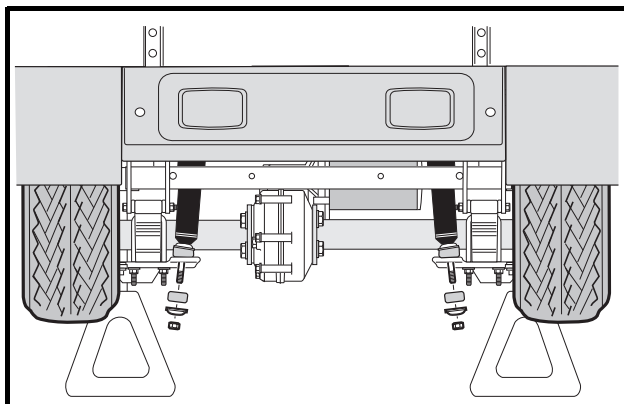
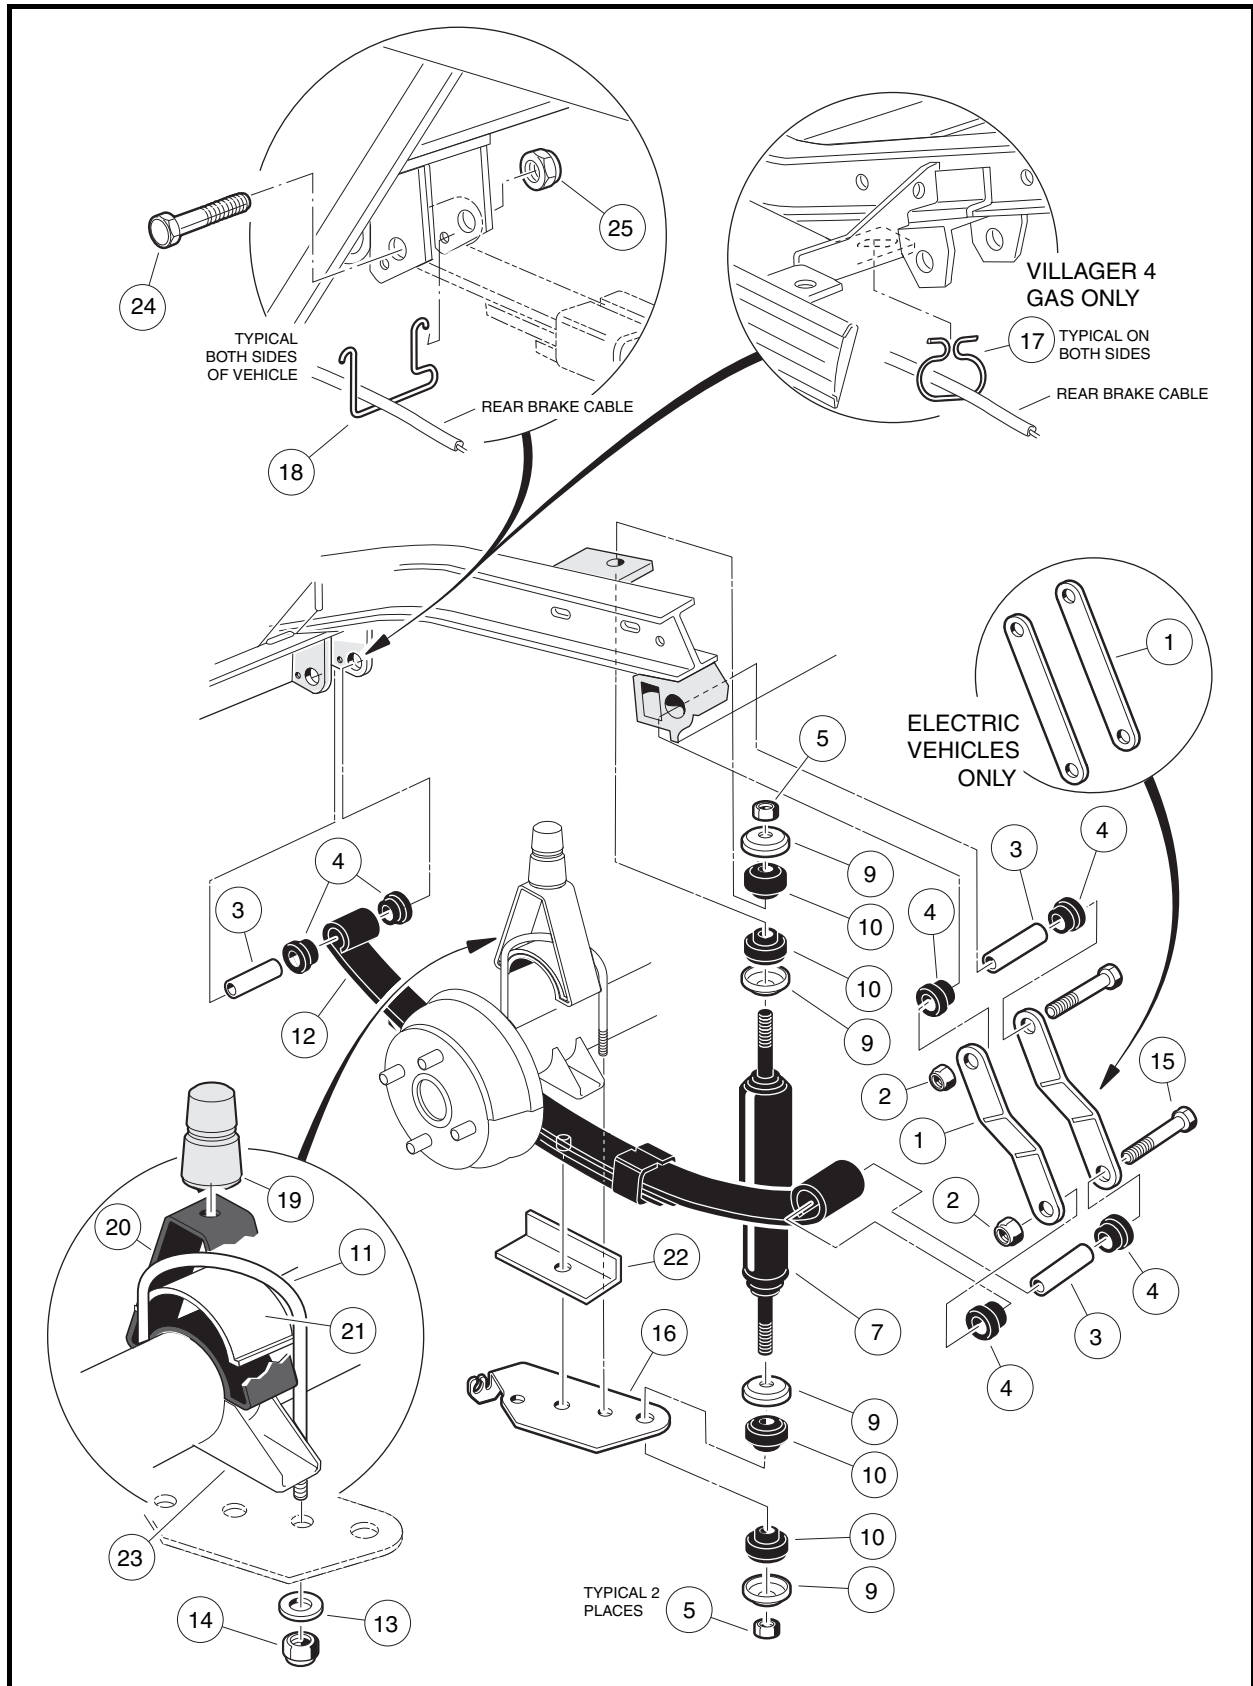
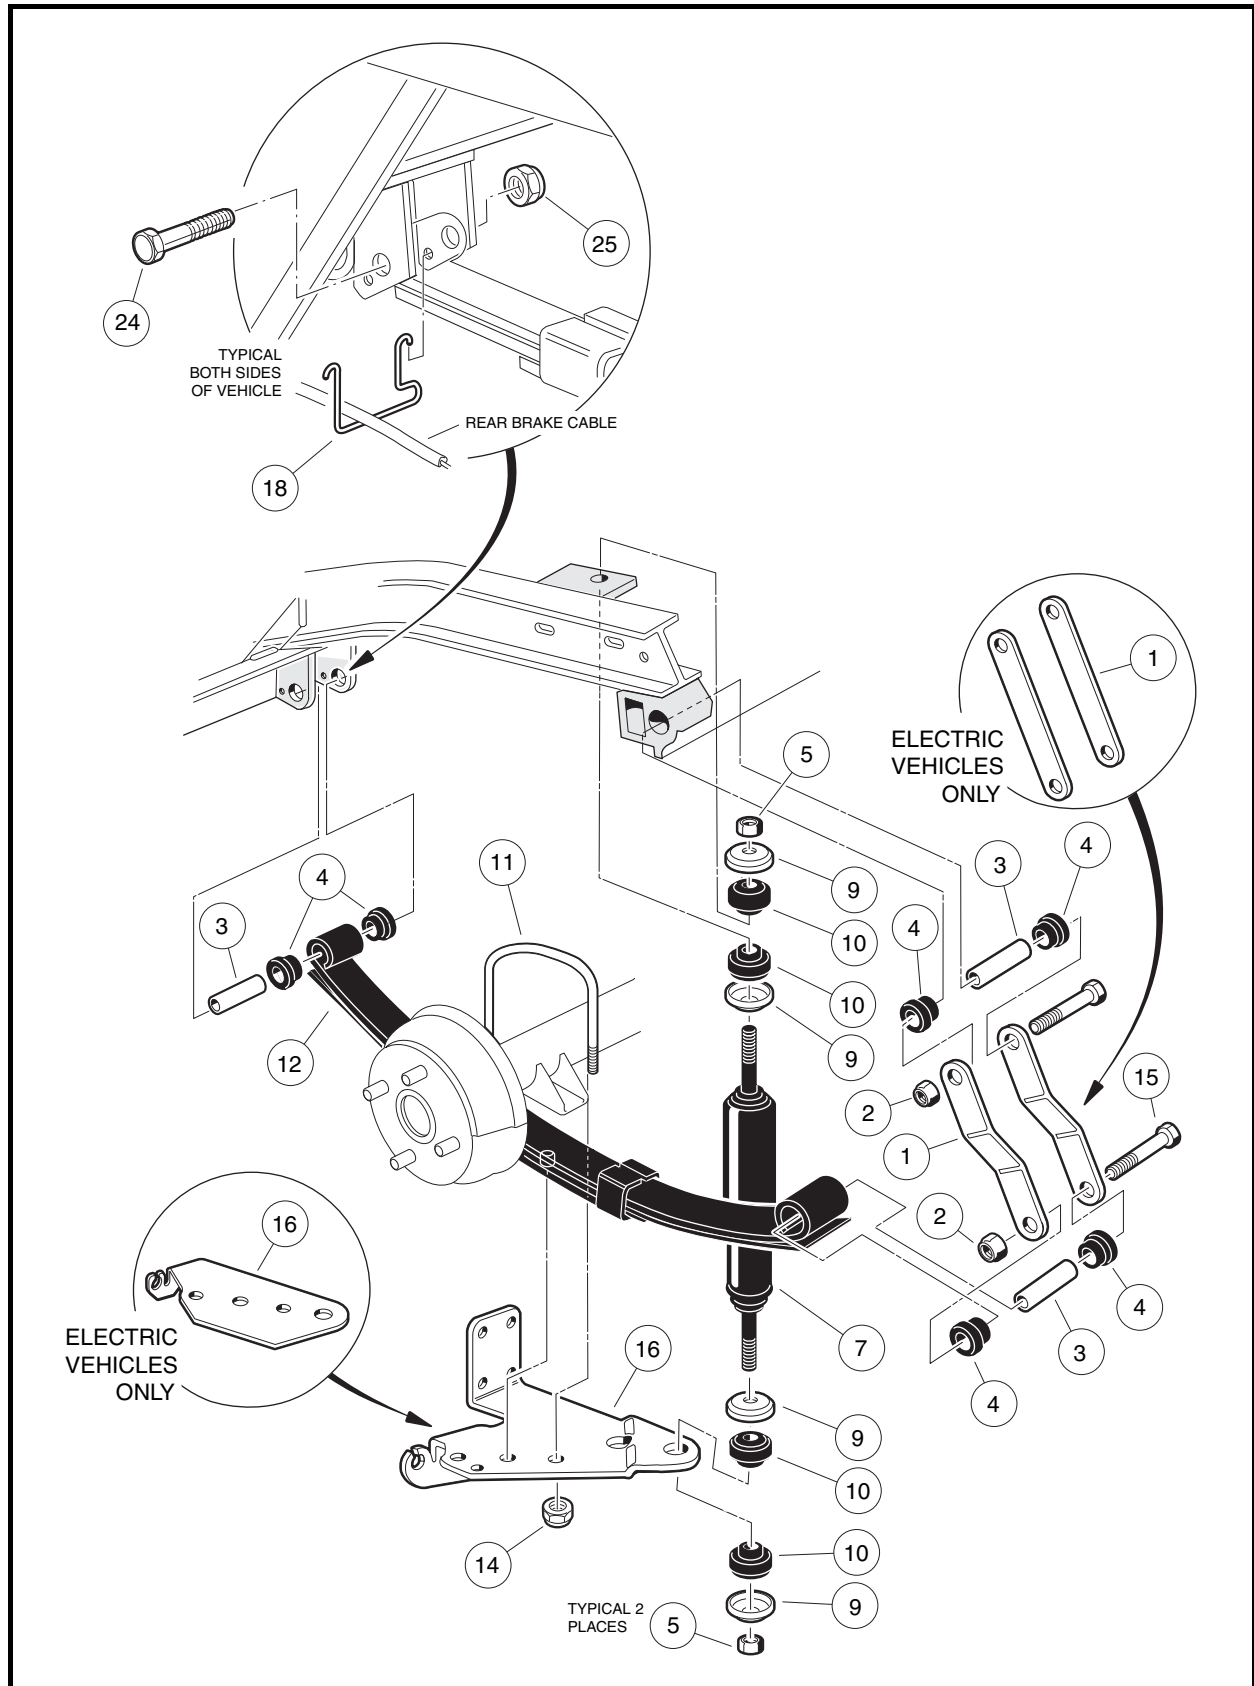

Figure 9-1 Remove Shock Absorbers
Figure 9-3 Rear Suspension – Villager 4 Vehicles
Figure 9-4 Rear Suspension – All Transportation Vehicles Except Villager 4
1. Check shock absorbers (7) for damage and fluid leakage around the lower housing of the shock absorber body. Replace damaged or leaking shock absorbers (**Figure 9-3, Page 9-4 or Figure 9-4, Page 9-5**).
2. To remove a shock absorber (7), remove the nut (5), cup washer (9), and rubber bushing (10) from the upper shock absorber stem.
3. Remove lower mounting hardware (5, 9 and 10) on shock absorber lower mount (**Figure 9-3, Page 9-4 or Figure 9-4, Page 9-5**). See also **Figure 9-1, Page 9-1**.
2. On the upper shock absorber mount, tighten nut (5) until rubber bushing (10) expands to size of cup washer (9) (**Figure 9-3, Page 9-4 or Figure 9-4, Page 9-5**).
3. On the lower shock absorber mount, install mounting hardware. Tighten the nut (5) until the rubber bushing (10) expands to the same diameter as the cup washer.
NOTE: Villager 4 vehicles are equipped with jounce bumpers (**Figure 9-3, Page 9-4**).
5. Remove lower nut (5), cup washer (9), and rubber bushing (10) from shock absorber (7) (**Figure 9-3, Page 9-4 or Figure 9-4, Page 9-5**).
- 6.1. Remove the lock nuts (14) and flat washers (13) (if present) attaching the U-bolt (11) to the shock mount bracket (16). Remove jounce bumper mount (20) and spacer (21) (**Figure 9-3, Page 9-4**).
- 6.2. Allow shock mount bracket (16) to rotate downward and remove spring retainer (22). Do not disconnect brake cable from bracket (**Figure 9-3, Page 9-4**).
- 7.1. Remove the lock nuts (14) attaching the U-bolt (11) to the shock mount bracket (16). Do not disconnect brake cable from bracket (**Figure 9-4, Page 9-5**).
8. Raise axle with floor jack until axle saddle (23) is 1 inch (2.5 cm) above spring (**Figure 9-3, Page 9-4**).
9. Remove bolt (15) and lock nut (2) attaching the leaf spring (12) to the rear shackle (1) (**Figure 9-3, Page 9-4 or Figure 9-4, Page 9-5**).
10. Allow rear of leaf spring (12) to rest on the ground and remove the bolt (24) and lock nut (25) attaching the front of the spring to the vehicle frame (**Figure 9-3, Page 9-4 or Figure 9-4, Page 9-5**). Remove spring from vehicle.
11. Inspect the rubber bushings (4) and steel sleeves (3) in the spring eyes and replace them if they are worn or damaged (**Figure 9-3, Page 9-4 or Figure 9-4, Page 9-5**).
1. Install rubber bushings (4) and steel sleeves (3) into leaf spring eyes if bushings were removed (**Figure 9-3, Page 9-4 or Figure 9-4, Page 9-5**).
2. Place front of leaf spring (12) into vehicle frame and insert bolt (24) through frame and leaf spring eye. Install lock nut (25) and tighten to 15 ft-lb (20.3 N-m).
3. Align the other end of leaf spring with the holes in the spring shackles (1). Insert bolt (15) through leaf spring eye and shackles. Install lock nut (2) and tighten to 15 ft-lb (20.3 N-m). Lower transaxle onto leaf spring (12). **See following CAUTION.**
- When placing transaxle on spring, be sure to position locating bolt on the spring in the locating hole in the transaxle saddle (23) (**Figure 9-3, Page 9-4**).
- 4.1. Install spring retainer (22) and shock mount bracket (16) onto locating bolt at bottom center of leaf-spring (**Figure 9-3, Page 9-4**). See preceding **CAUTION**.
- 4.2. Position jounce bumper mount (20) with spacer (21) onto axle tube. Install U-bolt (11), flat washers (13) (if present), and lock nuts (14). Tighten U-bolt to 25 ft-lb (34 N·m) (**Figure 9-3, Page 9-4**).
- 5.1. Install shock mount bracket (16) onto locating bolt at bottom center of leaf-spring (**Figure 9-4, Page 9-5**). See preceding **NOTE**.
- 5.2. Install U-bolt (11) and lock nuts (14). Tighten U-bolt to 25 ft-lb (34 N·m) (**Figure 9-4, Page 9-5**).
1. Grip jounce bumper (19) and pull from bumper mount (20) **(Figure 9-3, Page 9-4)**.
1. Insert jounce bumper (19) into bumper mount (20) **(Figure 9-3, Page 9-4)**. Make sure the entire circumference of bumper is seated firmly in mounting hole.